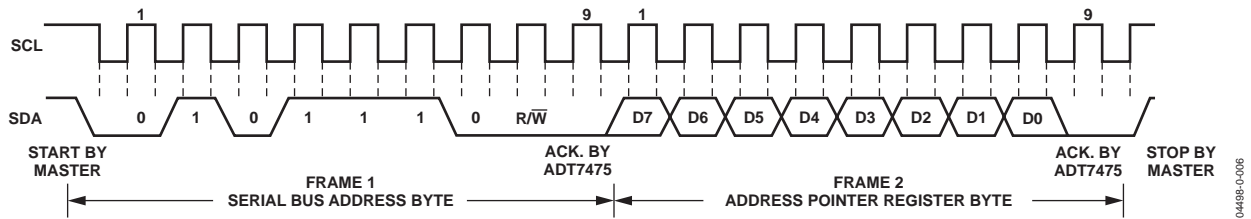

Figure 17. Writing to the Address Pointer Register Only
- If the ADT7475's address pointer register value is unknown or not the desired value, it must first be set to the correct value before data can be read from the desired data register. This is done by performing a write to the ADT7475 as before, but only the data byte containing the register address is sent, because no data is written to the register. This is shown in Figure 17.